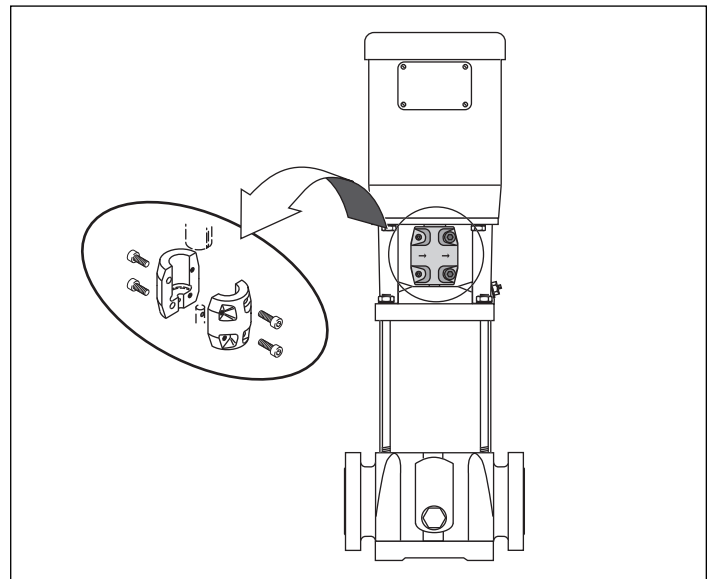

Figure 8: Remove the Socket Head Screws and the Coupling Halves
3. Remove the coupling guards (4) by prying them loose with a screw driver.
4. Remove the socket head screws (3) and the coupling halves (2) from the shaft (16A). For additional reference, see Figure 8.